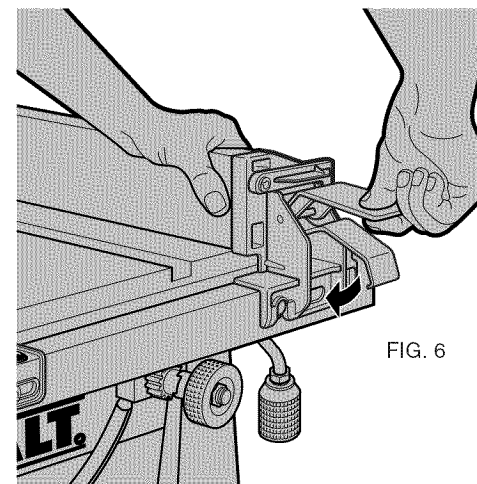

FIG. 6
2. Secure the rip fence by snapping the latches onto the rails as shown in Figure 6. Be sure to snap both latches in place.